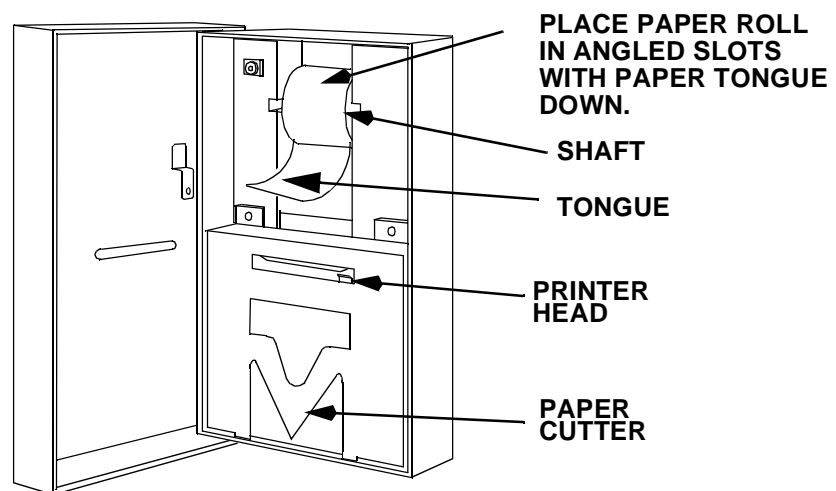

Figure 15. Paper Roll in Printer
2. Remove shaft from printer. Remove old paper roll core, if any. Install the paper roll on the shaft. Insert the shaft and paper roll into the printer with paper as shown [Figure 15].